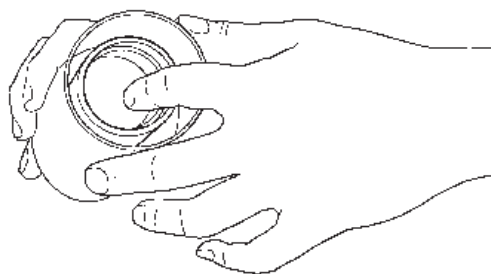

Figure 2.9
2. If you plan to do *programmed* cooling experiments with the DSC Cooling Can, first punch a 2-cm hole in the center of the insulation disc. This allows you to remove the disc from the can later by prying up the edge of the hole with a tool. Place the insulation disc inside the can by turning the cooling can upside down, putting the disc into the can, and pushing the disc until it snaps into place (see Figure 2.9).